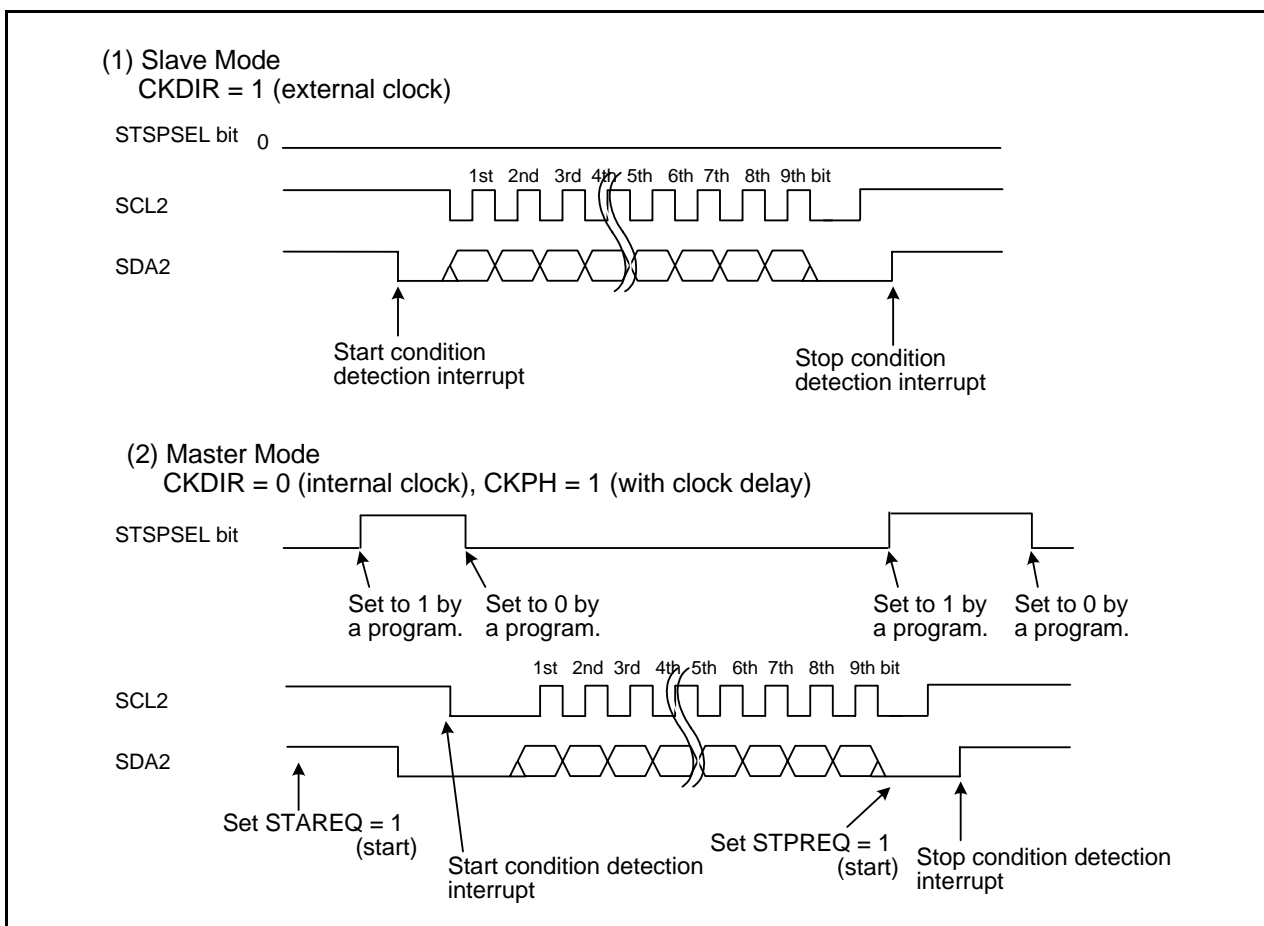

Figure 25.16 STSPSEL Bit Functions
- Refer to **Figure 25.16 STSPSEL Bit Functions**.
Table 25.13 lists the STSPSEL Bit Functions. Figure 25.16 shows the STSPSEL Bit Functions.